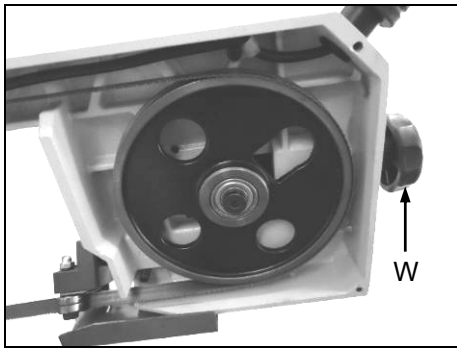

Fig. 11
4. Turn the blade tension knob (W) in Fig.11, Counter-clockwise and loosen the tension.